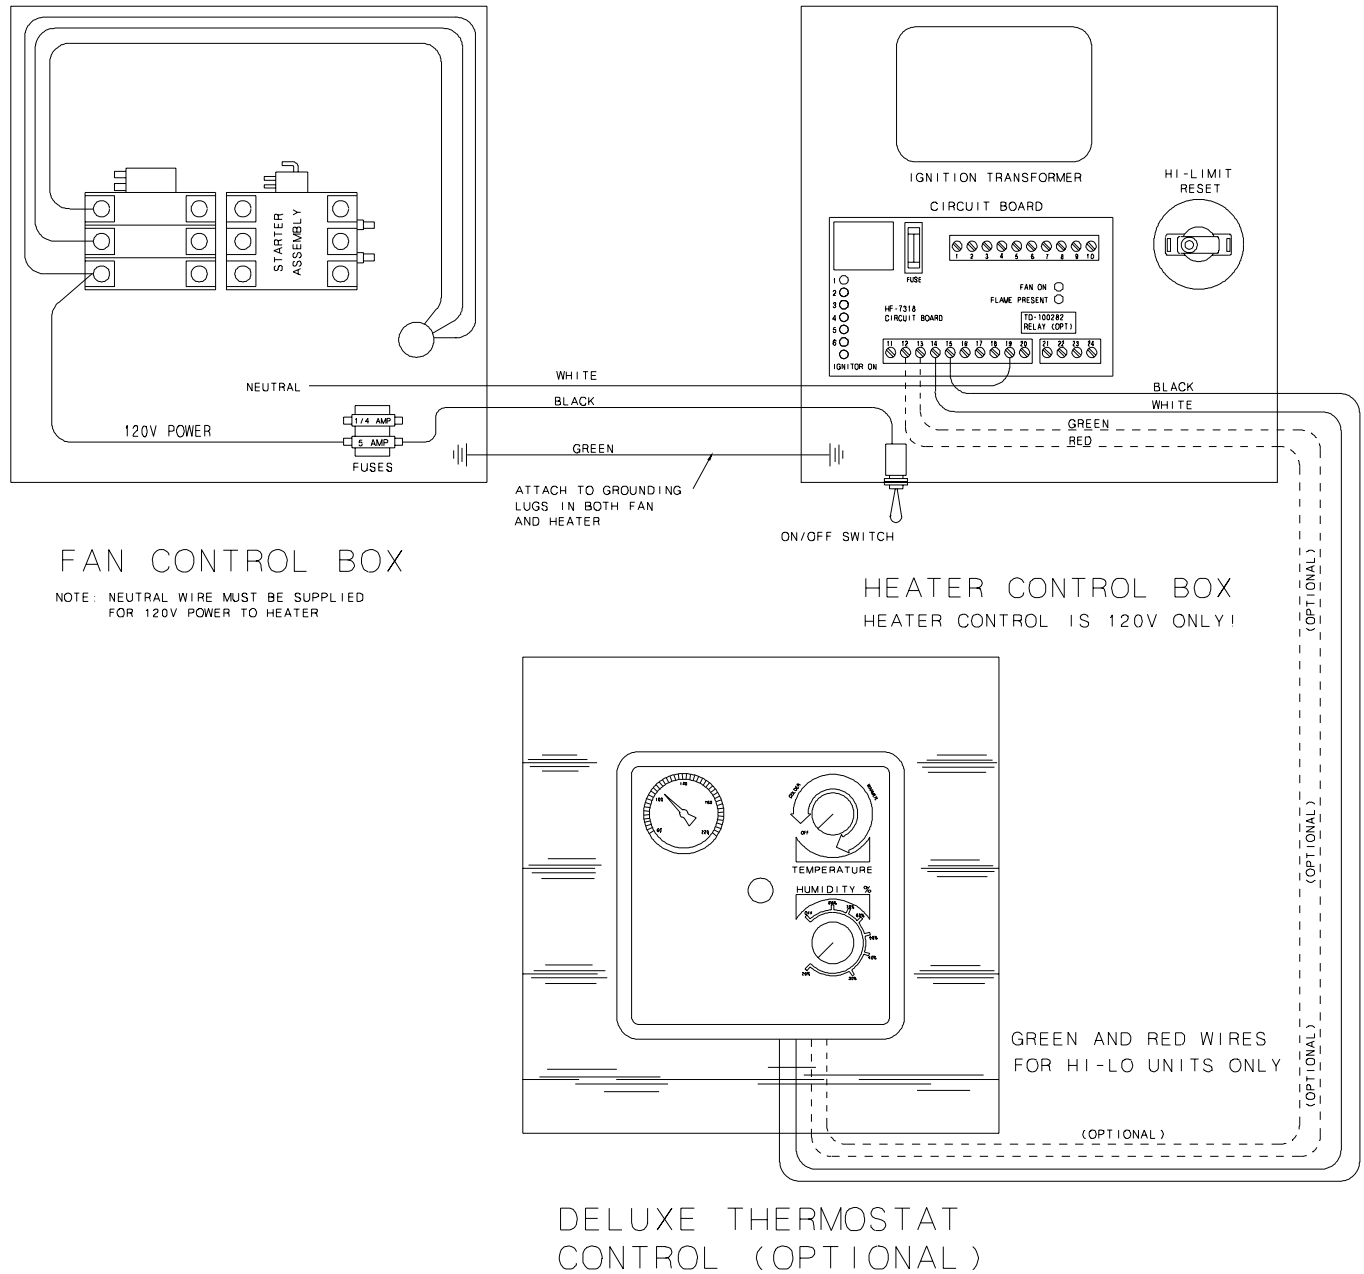

Figure 1: 230 volt fan control box.
2. Make field connections of wires in fan box as shown in Figure 1. IMPORTANT! HEATER MUST BE INTERLOCKED WITH FAN FOR SAFE OPERATION.
3. Connect deluxe thermostat control (optional) in heater box as shown in Figure 1. IMPORTANT! THERMOSTAT MUST BE INSTALLED FOR SAFE OPERATION.